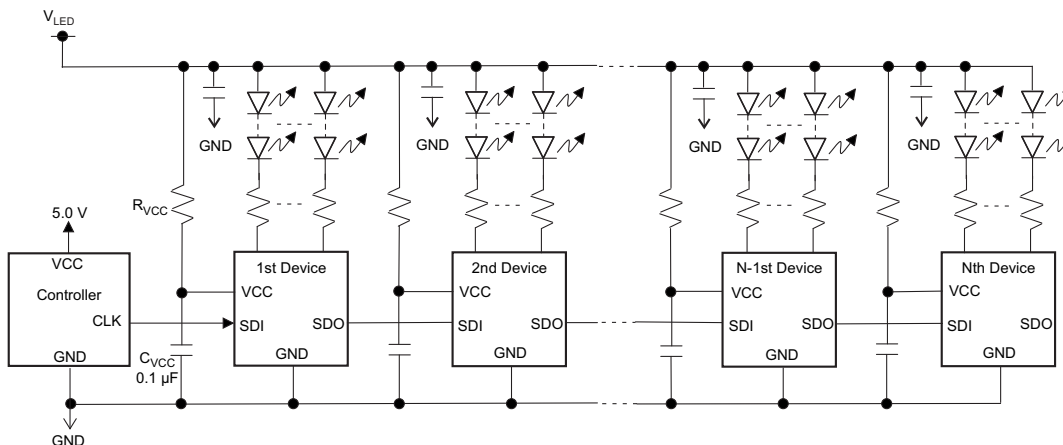

Figure 18. Cascade Connection of N TLC59731 Units (Internal Shunt Regulator Mode)
The 8-bit write command and 24-bit grayscale (GS) data for OUT0 to OUT2 (for a total of 32 bits of data) must be written to the device. Figure 17 shows the 32-bit data packet configuration. When multiple devices are cascaded (see Figure 18),  $N$  times the packet must be written into each TLC59731 in order to control all devices. There is no limit on how many devices can be cascaded, as long as proper VCC voltage is supplied. The packet for all devices must be written again whenever any GS data changes.